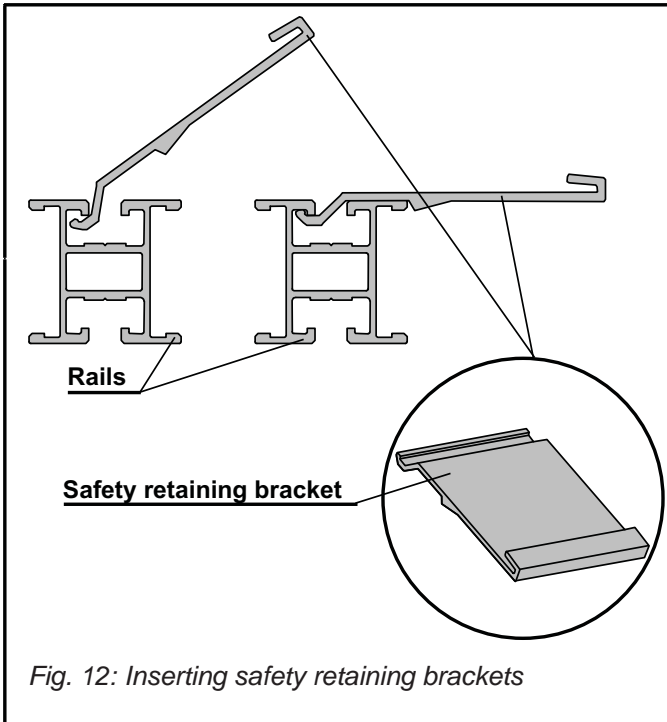

Fig. 12: Inserting safety retaining brackets
- Insert safety retaining brackets (Fig. 12) into the bottom rail, 2 brackets per collector.